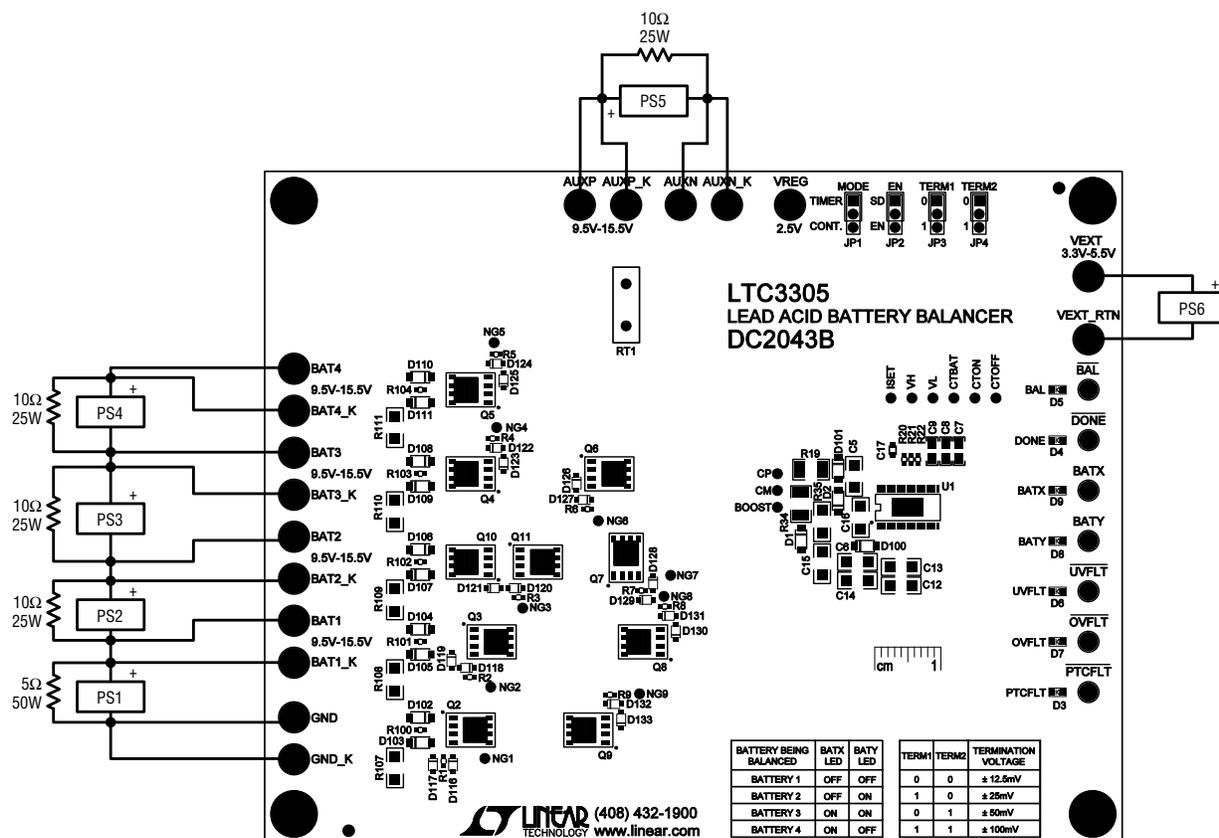

Figure 5. Proper Measurement Equipment Set-Up
Using short twisted pair leads for any power connections, with all loads and power supplies off, refer to Figure 5 for the proper measurement and equipment setup.
2. Connect power supplies, load resistors and meters as shown in Figure 5. Turn on PS1 and slowly increase voltage to 2.0V while monitoring the input current. If the current remains less than 200mA, increase PS1 to 12.0V. Repeat for PS2-PS4.